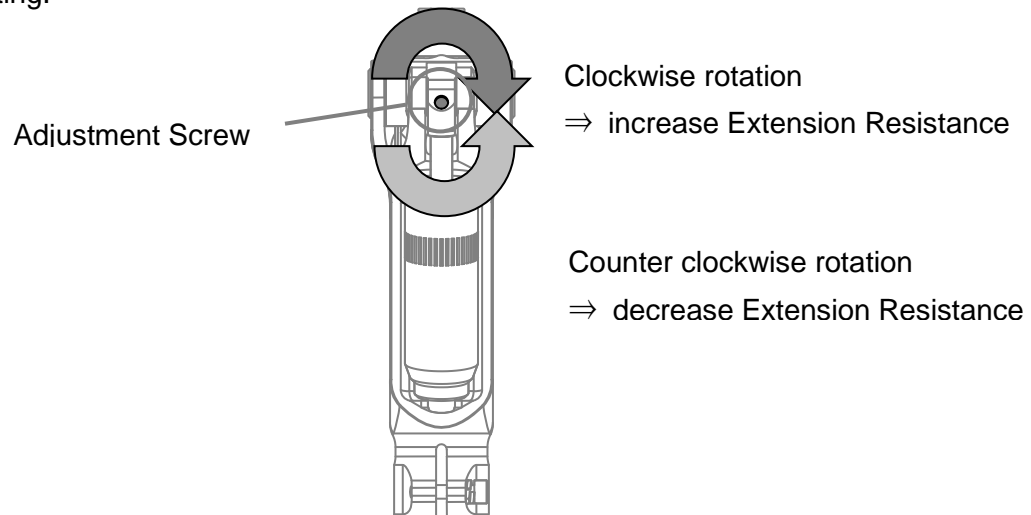

Fig. 4 Flexion resistance adjustment of hydraulic cylinder for swing phase control
- Turn an adjustment screw on the proximal section of the damper using a hexagon wrench for adjustment (Fig.4). The range of adjustment is approximately 2 rotations from the condition where the adjustment screw is tightened completely (maximum resistance to the extension). Extension resistance is set in the middle state in the products default setting.